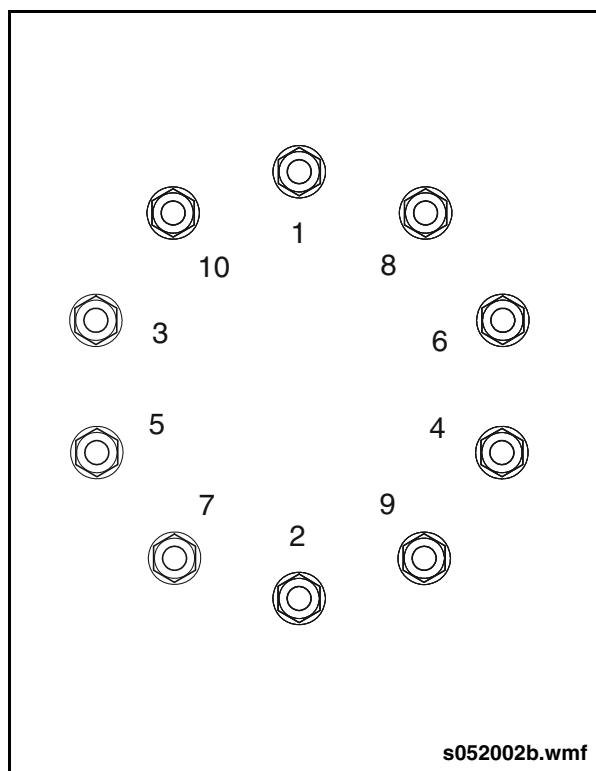

Fig. 2-5: Wheel Nut Torquing Sequence
5. Using torque wrench, pretorque wheel nuts in sequence to 200 ft-lb. (272 Nm). See "Fig. 2-5: Wheel Nut Torquing Sequence" on page 10.